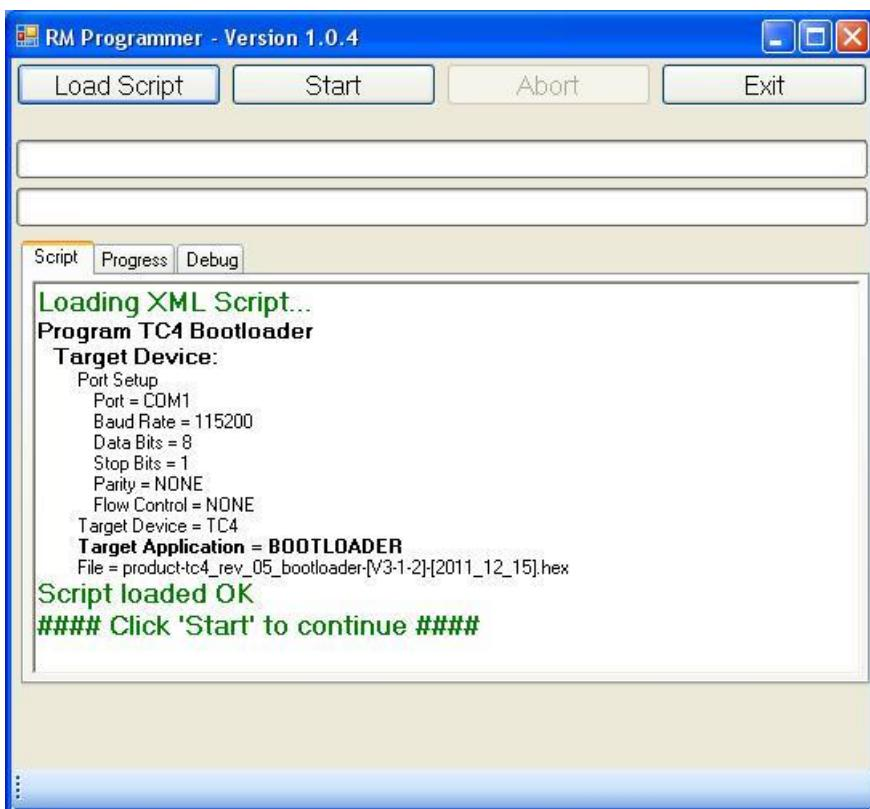

Figure 41: RM Programmer with loaded Bootloader script
- 4) The RM Programmer will load the XML file and display the connection settings of the loaded XML file as shown in Figure 41.